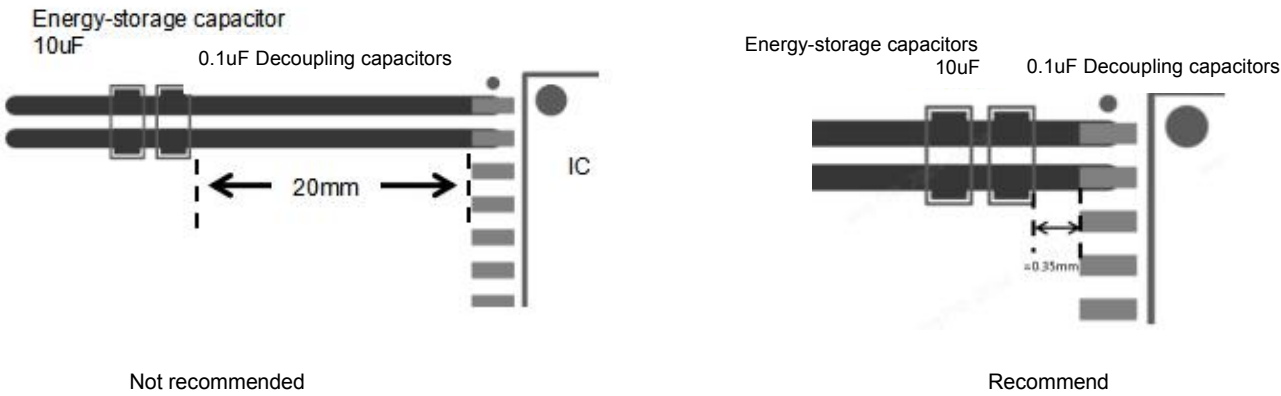

Figure. 23-1
1. The decoupling capacitors and energy storage capacitors of VCC and GND1, VISO and GND2 should be placed as close to the chip pins as possible to reduce the loop area and parasitic inductance of PCB wiring. Generally, it should be controlled within 0.35mm. The decoupling capacitor is placed near the chip, and the energy storage capacitor is placed on the outside. As shown in Figure 23-1.